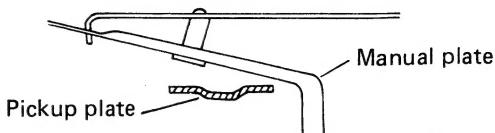

Figure 11.
3) While the stylus tip rides in the first modulated groove (not lead-in groove) of 12" record (30cm), the manual plate must not touch the Pickup plate (See Figure 11).